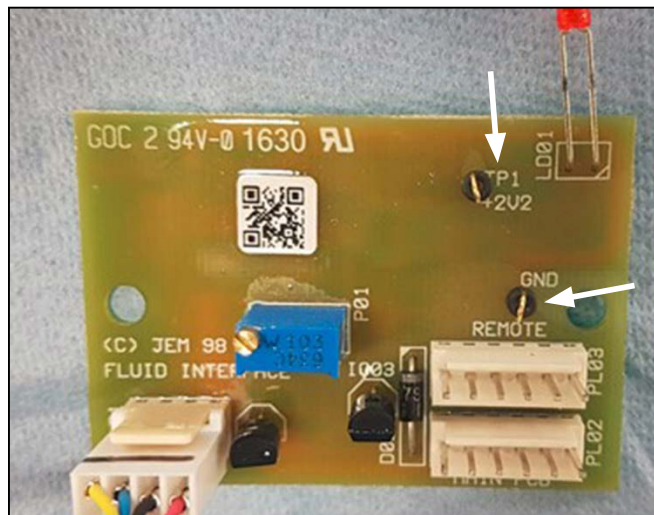
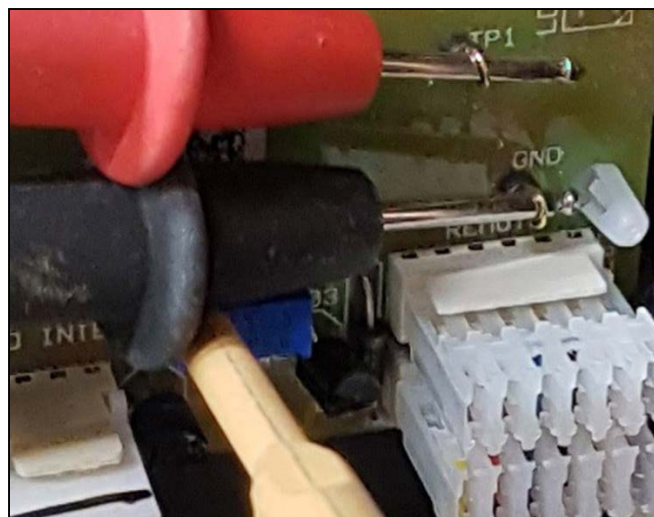

Figure 31: Connecting DMM to fluid sensor
Figure 33: Turning the potentiometer
5. Connect the DMM to the fluid sensor PCB placing the positive lead onto "TP1" and the negative lead onto "ground". See figure 31 and figure 33.